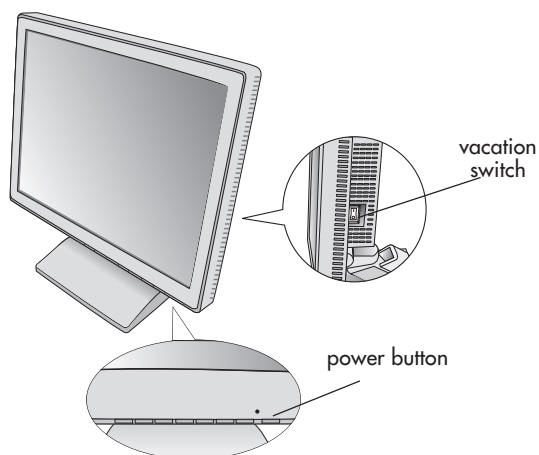

Figure D.1
5. The vacation switch on the right side of the monitor must be turned on (**Figure D.1**). Turn on the monitor with the front power button and the computer.